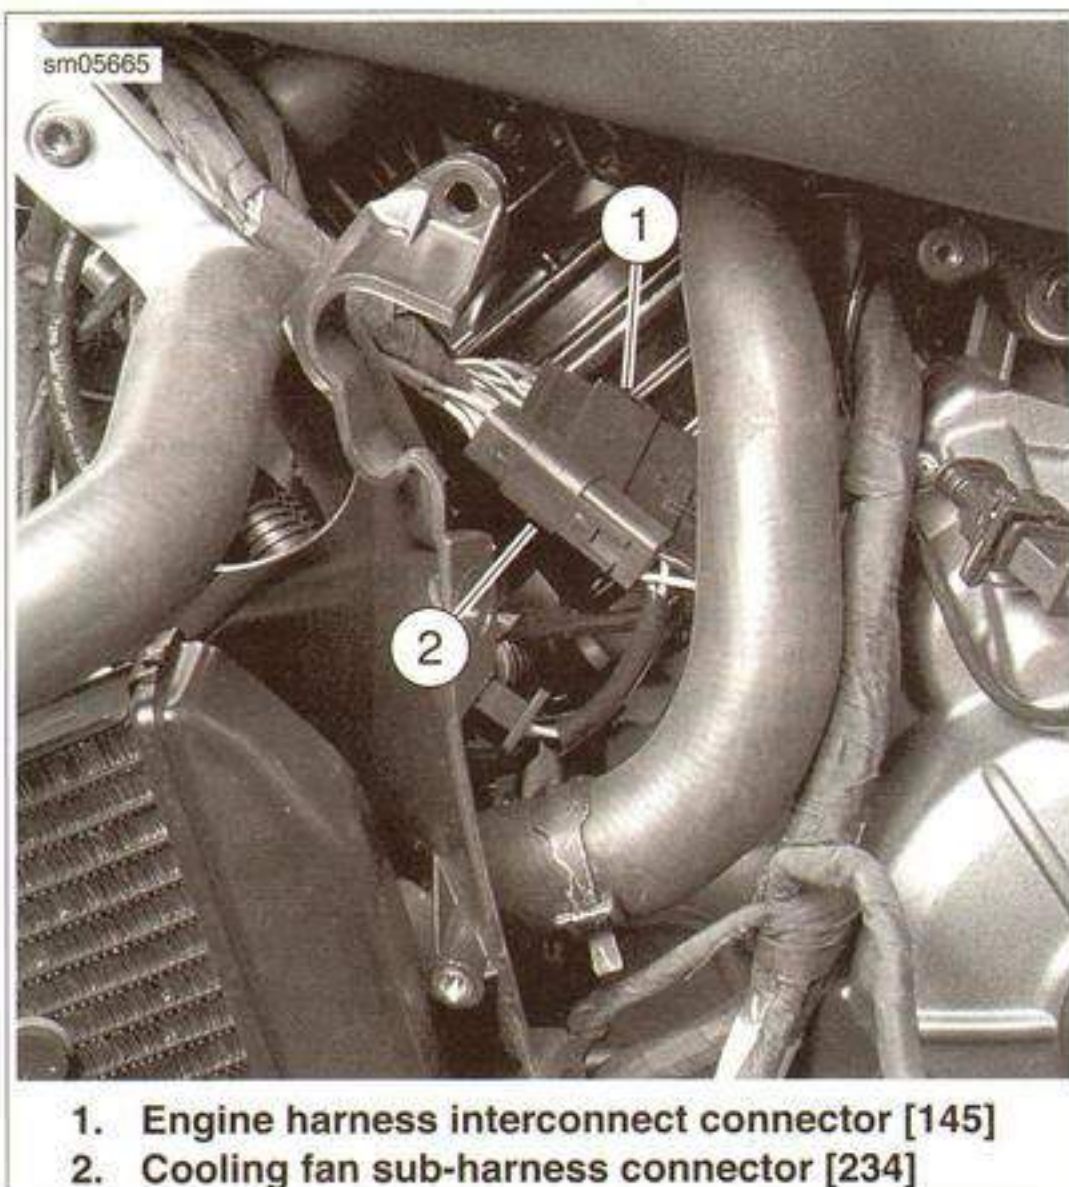

Figure 3-50. Fan and Engine Harness Connectors
1. See Figure 3-50. Connect engine harness interface connector [145] (1).
2. Connect fan sub-harness connector [234] (2).